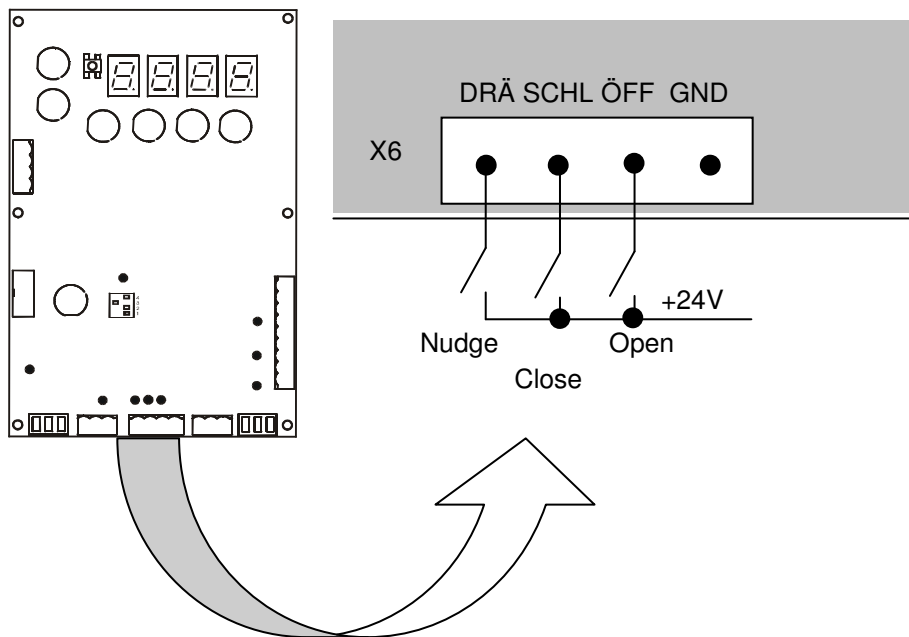

Bild 4-4 Control signal inputs
- 12 – Finally, hook up the control signal cables to the elevator control unit at the control signal inputs X6 (Fig. 4-4)